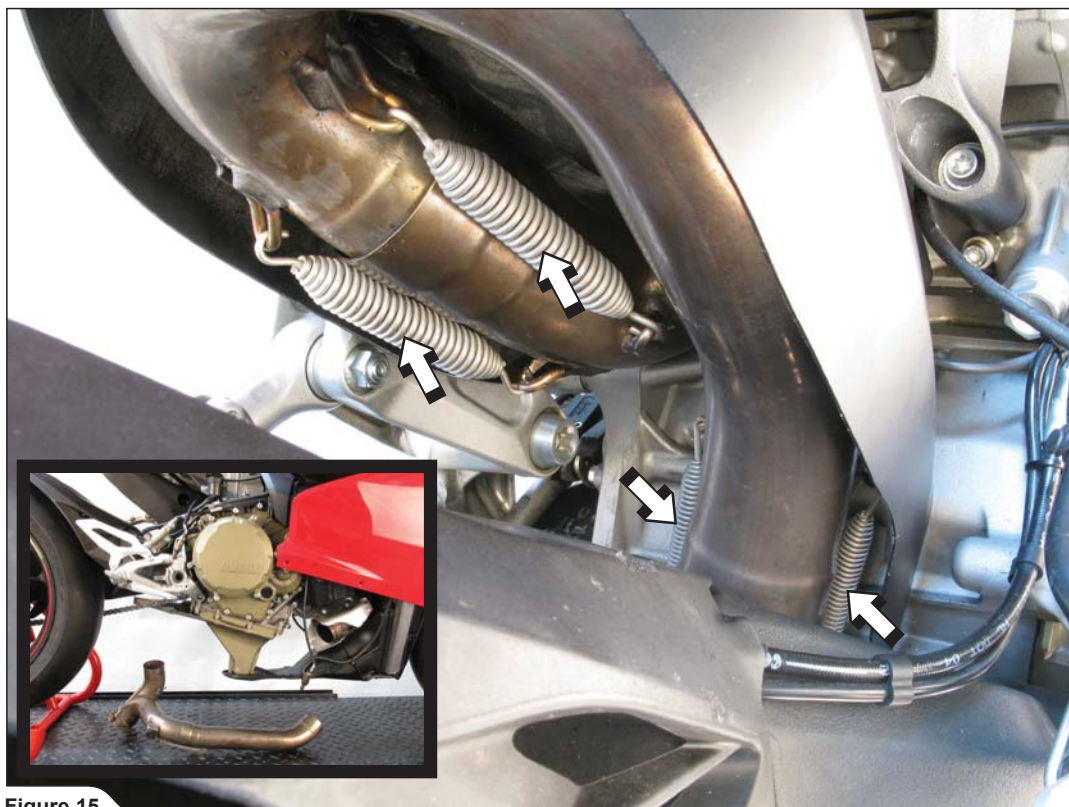

Figure 15
13. Undo the marked springs and carefully remove the collector with front link pipe off the motorcycle (Figure 15).